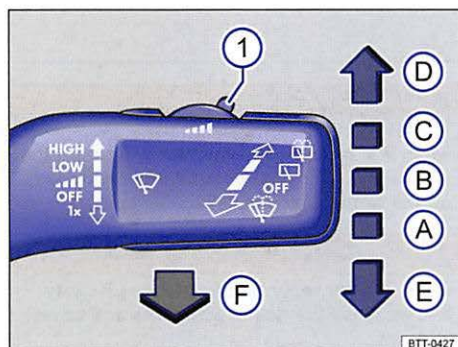

Fig. 76 Operating the front windshield wipers.
- Press the windshield wiper lever down briefly ⇒ fig. 76 (E) when the ignition is off.
Fold the wiper arms back onto the windshield before driving! Switch the ignition on and press the windshield wiper lever down briefly ⇒ fig. 76 (E). The wiper arms move back to their original position.